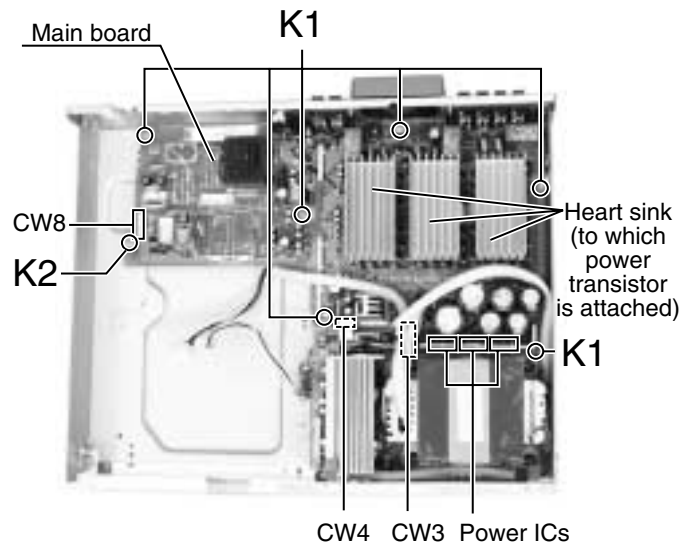

Fig.10
■ Removing the main board (See Fig.10)
■ Removing the power transistor & power IC (See Fig.10 and 11)